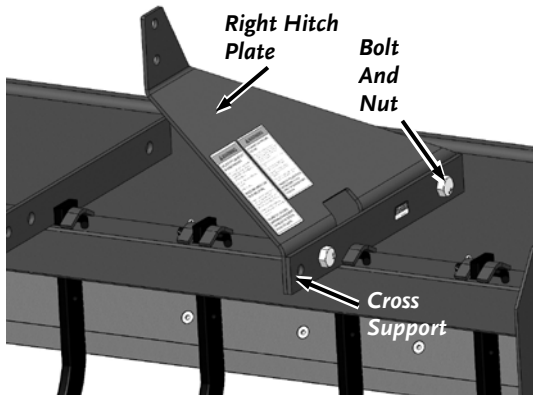

Figure 6
3. Place the Right Hitch Plate on the inside of the cross support and loosely secure by hand to the Cross Support with two M24 Bolts and two M24 Nuts (**Figure 6**).